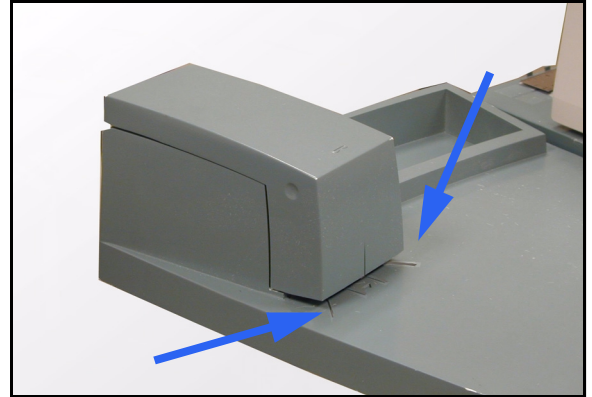

Figure 9: Paper Guides
- 2 Slide the set under the staple head using the diagonal or straight marks on the stapler base as a guide. These diagonal or straight marks are the paper guides (Figure 9).